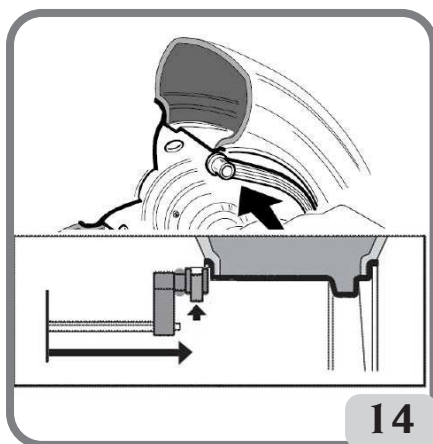
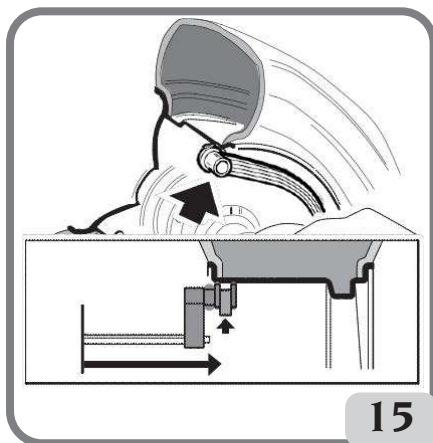

Fig. 14: Manual acquisition of the wheel distance in the ALU 2P Program Type
Fig. 15: Manual acquisition of the distance of the internal plane in the Program Type ALU 1P
application of the inner weight. In Alu 1P the centre of the notch in the holder is used as the reference for the centre line of the weight (fig.15). In Alu 2P refer to the rim edge, since the inner weight is of the clip type (Fig.14).
- Bring the end of the measuring arm level with the plane selected for applying the internal weight (Fig. 15 for ALU 1P, Fig. 14 for ALU 2P). In Alu 1P the centre of the notch in the holder is used as the reference for the centre line of the weight. In Alu 2P, the rim edge is taken as a reference, since the inner weight is of the conventional clip type.